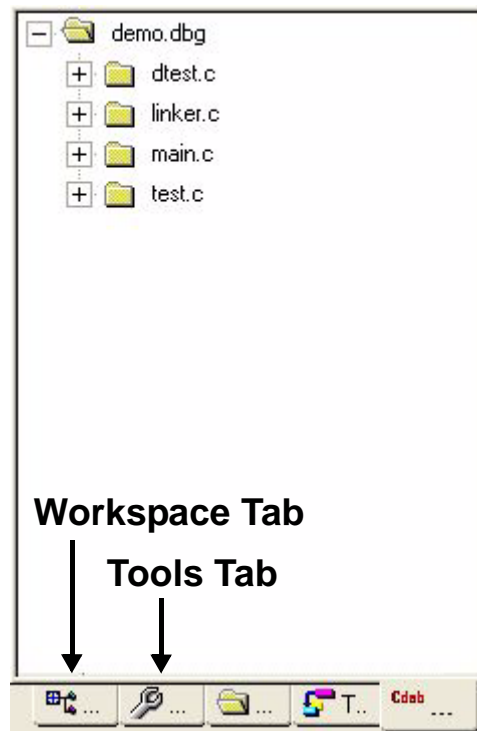

Figure 4-42. C Debugger Cdeb Tab
- 6 Selecting the Cdeb **Cdeb** tab in the Navigation Pane displays its tab that lists all the source code file names and function names for the loaded test program (similar to Figure 4-42).